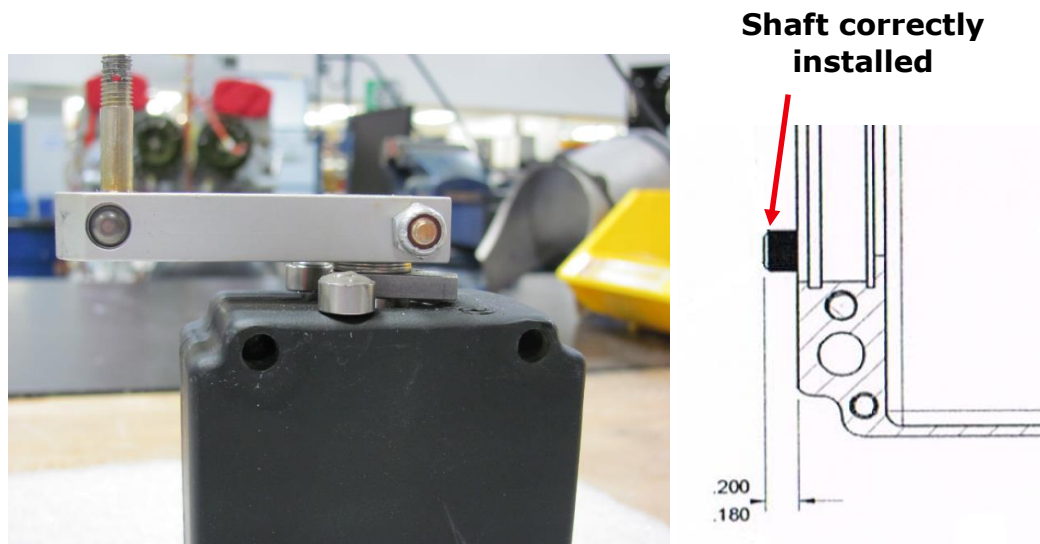

Figure 2. Magnetic brake assembly with stops correctly installed.
8. The shaft should protrude from the housing surface between 0.180 inch and 0.200 inch. (Figure 2).